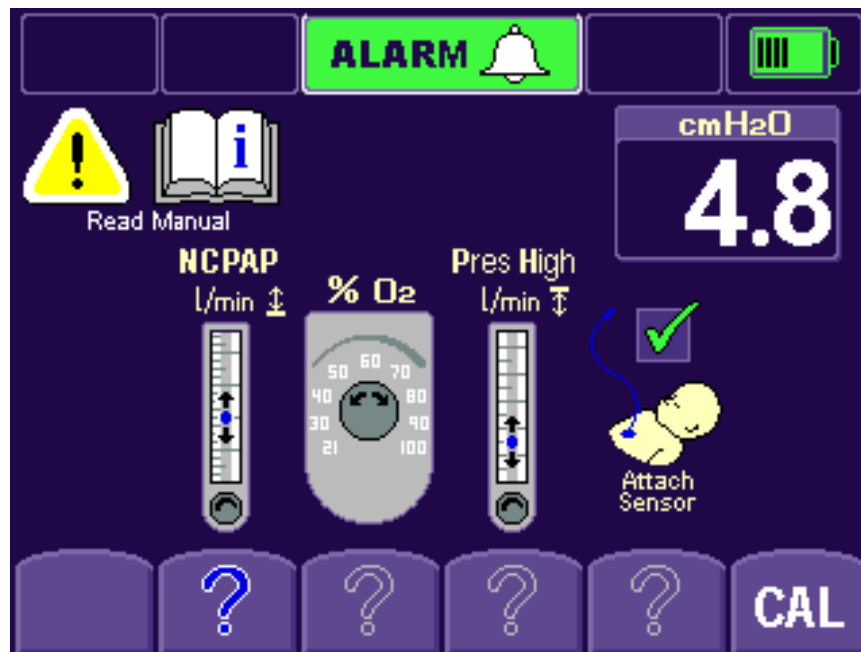

Figure 1
4. Set the NCPAP (Low Pressure) Flowmeter to about 8 LPM then push the soft key button below the left flowmeter icon (Figure 1).